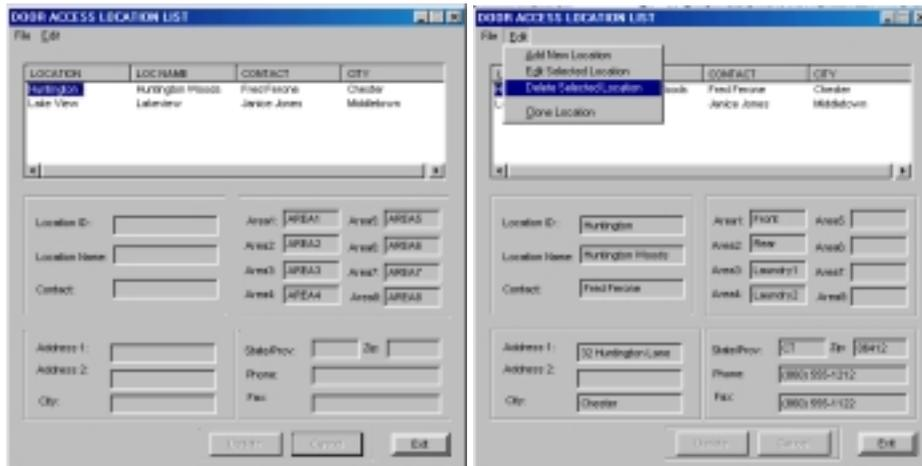

Figure 11.17 Deleting a Location
1. In the Door Access Location List window click the location you wish to delete from the Locations List Window (Figure 11.17).
2. Select Delete Selected Location from the Edit drop-down menu (Figure 11.17).